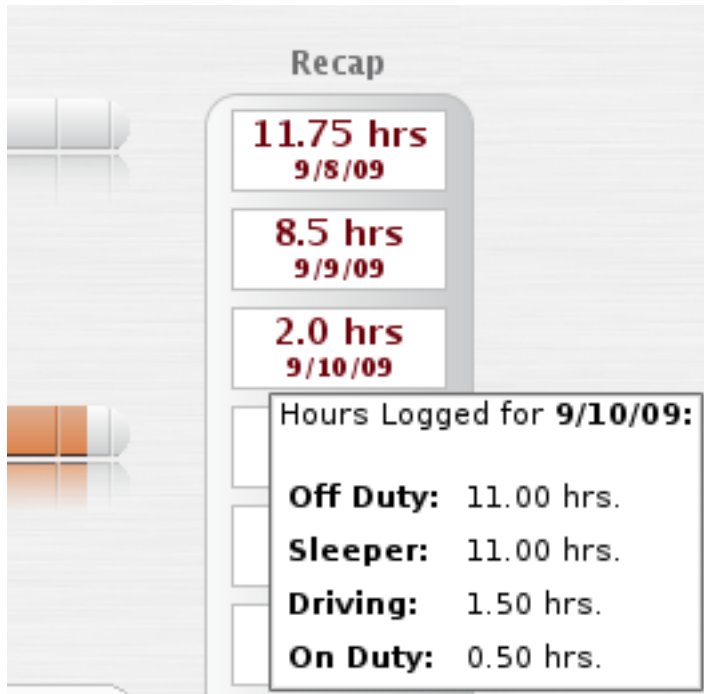

Figure 4.3. Recap Details
3. Don't move your mouse at all and wait 5 seconds for the recap details box appears see Figure 4.3, "Recap Details"